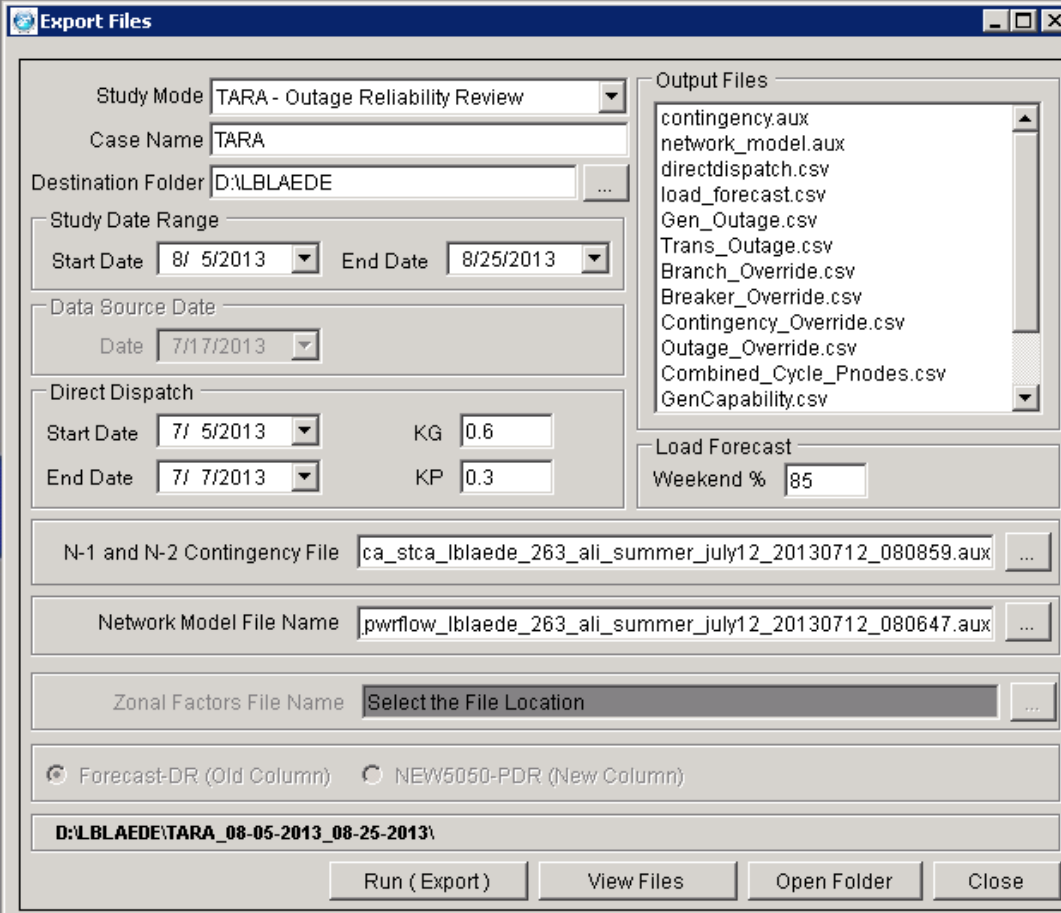

Fig. 1
3. SELECT "TARA – Outage Reliability Review" Study Mode (See Fig. 1, below).